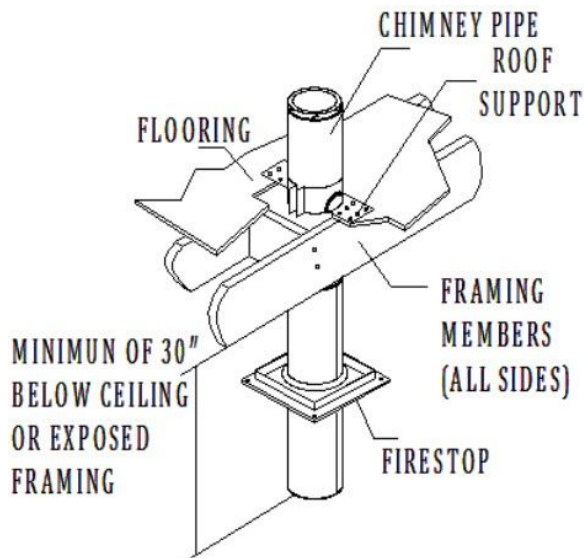

Fig 18
An Alternative Installation Location for the Roof Support Bracket: The Roof Support Bracket may be used at the bottom of a chimney installation (Fig 18). This may be useful for some basement installations. Maintain a minimum of 2" clearance to combustibles at all times. The AF-HST chimney needs to extend a minimum of 3" below the finished ceiling or exposed framing members. Please note that you cannot extend the chimney all the way to the appliance - you must have a stove pipe adaptor and connector pipe at some point of the installation to attach to the collar of your appliance.
2. Bolt on the Roof Support Brackets to the Roof Support Band using the supplied hardware. Attach the Roof Support Brackets to the floor joists using (4) 8-penny nails or (4) #8, 1-½" screws per side (Fig 18).